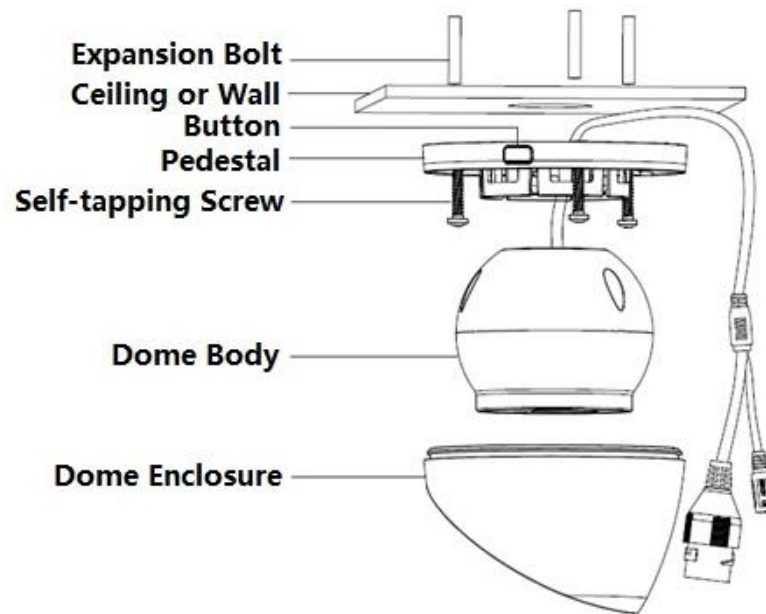

Figure 2-1 (a)
- The installation figures are for reference only, please refer to figure 2-1(a) or 2-2(b) according to the actual product.
- For the device shown in Figure 2-1 (a), the steps of disassembling the device are as follows: